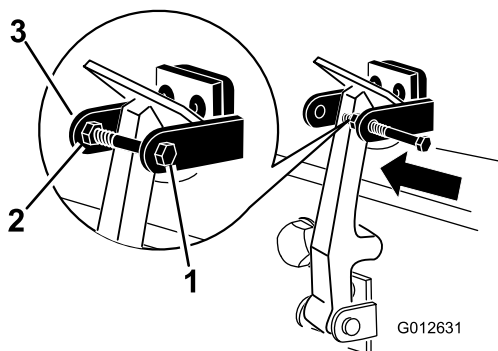

**Figure 5**
7. Hook the latch onto the hood-latch bracket (Figure 5).